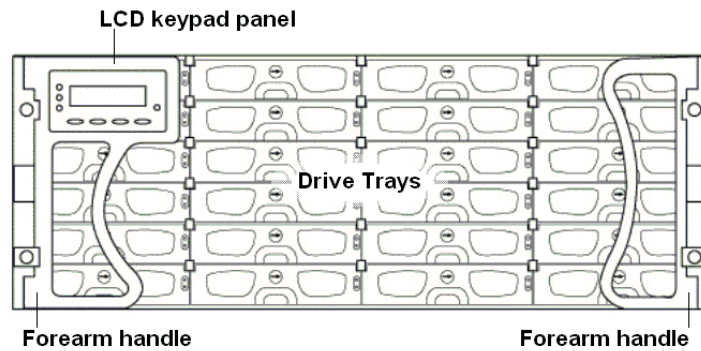

Figure 1-3: Galaxy A24F RAID Subsystem Front View
As shown in **Figure 1-3**, the front of the subsystem features a 4-column by 6-row layout to accommodate twenty-four (24) drive trays that are designed to house standard 3.5-inch SATA drives. The front side of the subsystem also has two (2) foldable forearm handles (see **Figure 1-3**) that are conveniently placed on the sides to facilitate installation and removal of the enclosure within a rack. The left handle comes with a 16-character by 2-row LCD keypad panel with four (4) function buttons that can be used to configure, troubleshoot, and maintain the subsystem.